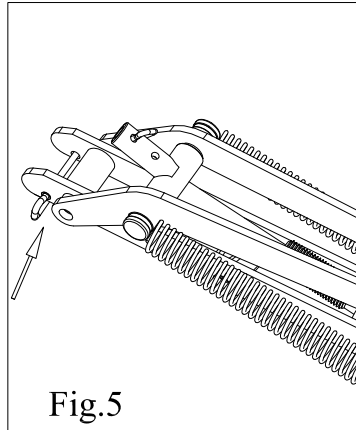

Fig.5
Follow the same procedure as described above except remove the plastic cap from the clutch T (4) and use hole >>b<< and fit the stop pin (6) onto the arm (7). See the fig.5.